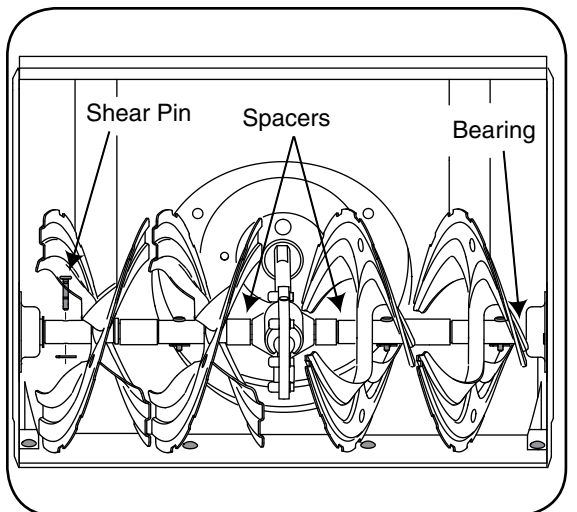

Figure 15
1. Adjust skid shoes by loosening the four lock nuts and carriage bolts and moving skid shoes to desired position. See Figure 15.
At least once a season, remove the shear pins on auger shaft. Spray lubricant inside shaft, around the spacers. Also lubricate the flange bearings found at either end of the shaft. See Figure 15.
- The augers are secured to the spiral shaft with two shear pins and cotter pins. If the auger should strike a foreign object or ice jam, the snow thrower is designed so that the pins may shear. Refer to Figure 15.